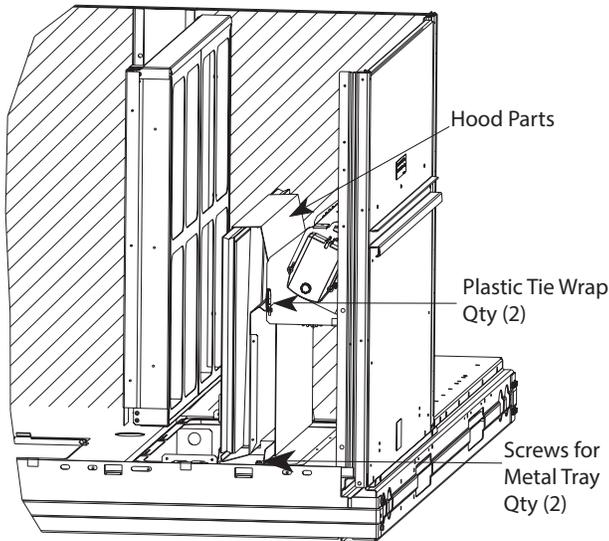

Fig. 9 — Economizer and Two-Position Damper Hood Parts Location
2. Locate the (2) screws holding the metal tray to the basepan and remove. Locate and cut the (2) plastic tie-wraps securing the assembly to the damper. See Fig. 9. Be careful to not damage any wiring or cut tie-wraps securing any wiring.